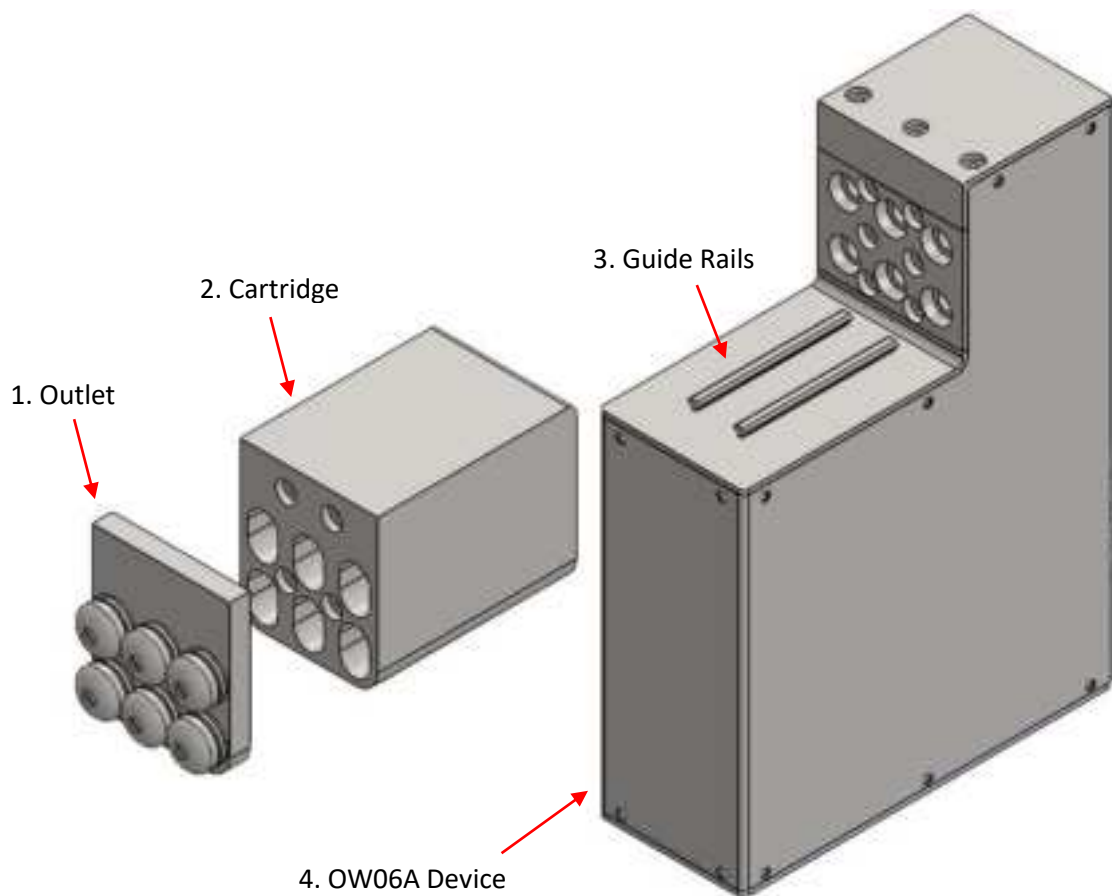

Figure 3: Scent cartridge mounting
- The Scent Cartridge can be refilled with odorant by removing the Outlet (see Figure 3) and replacing the scent infused sponge or other medium.